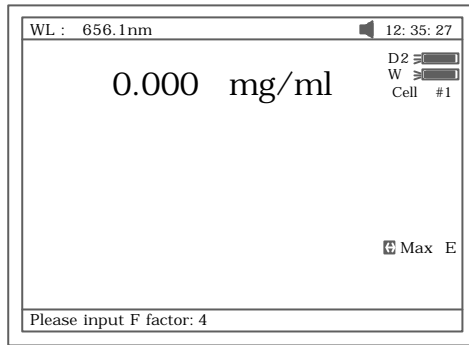

Fig 23
4.1 Press **【F3】** to input known F value, Fig 23. Then push the sample into lightpath to take reading of concentration